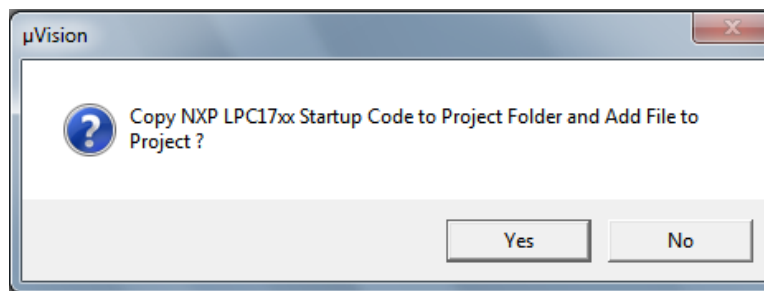

Figure 7.3: Keil IDE: Copy Startup Code
- Answer “Yes” to copy the startup code (See Figure 7.3).